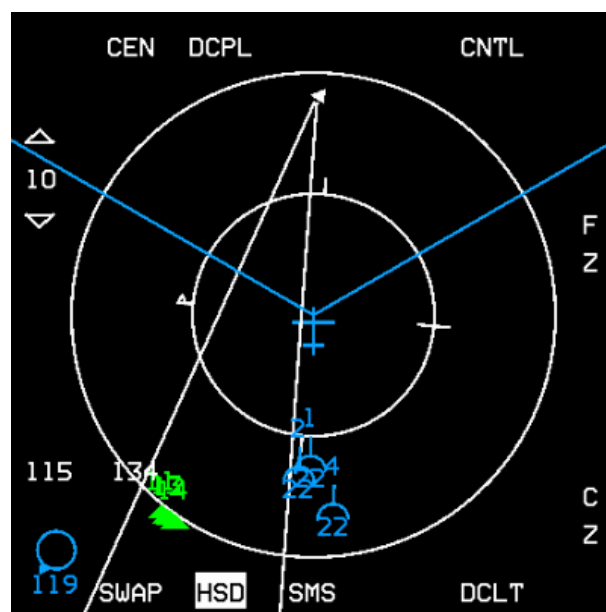

Figure 48 Friendly wingmen off HSD (bottom left)
- Data Link Targets (see Figure 48). Outside the HSD FOV. Data link friendly or data link unknown targets which are outside of the HSD field-of-view are indicated by an arrow pointing in the direction of the target positioned on the outer range ring of the HSD.